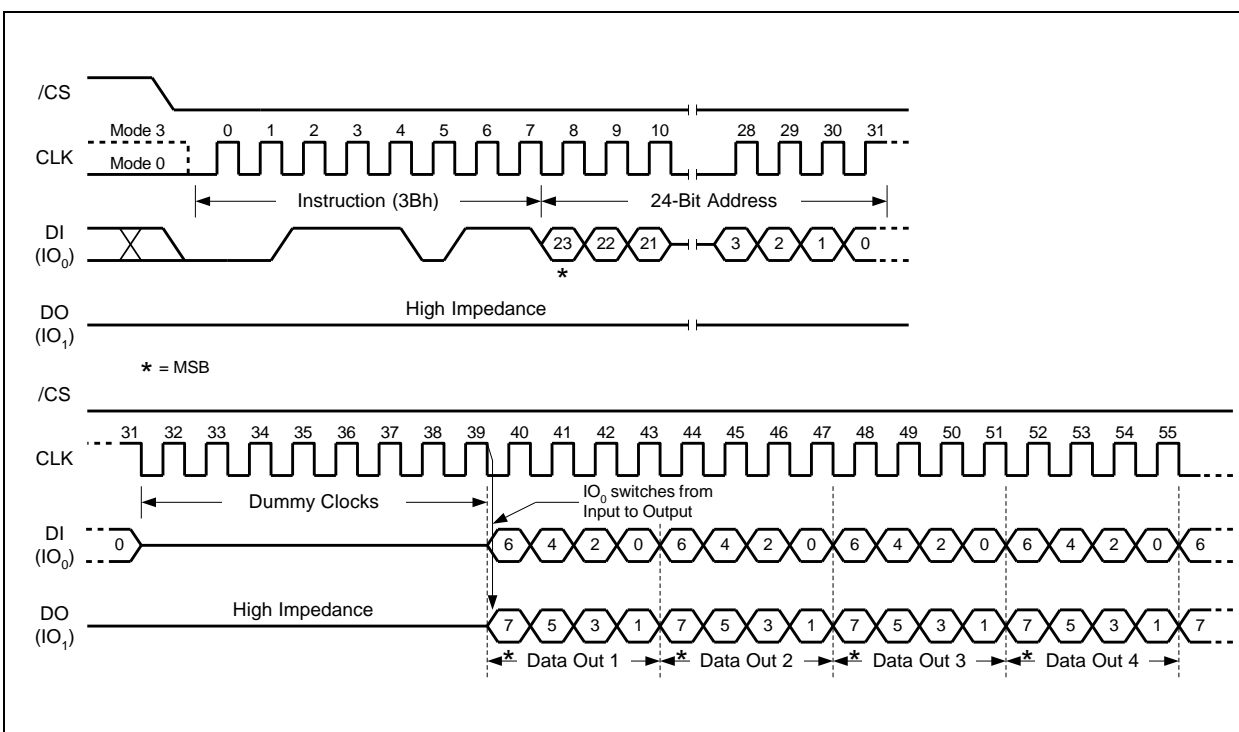

Figure 18. Fast Read Dual Output Instruction
- 8.2.8 Similar to the Fast Read instruction, the Fast Read Dual Output instruction can operate at the highest possible frequency of FR (see AC Electrical Characteristics). This is accomplished by adding eight “dummy” clocks after the 24-bit address as shown in Figure 18. The dummy clocks allow the device's internal circuits additional time for setting up the initial address. The input data during the dummy clocks is “don't care”. However, the IO0 pin should be high-impedance prior to the falling edge of the first data out clock.